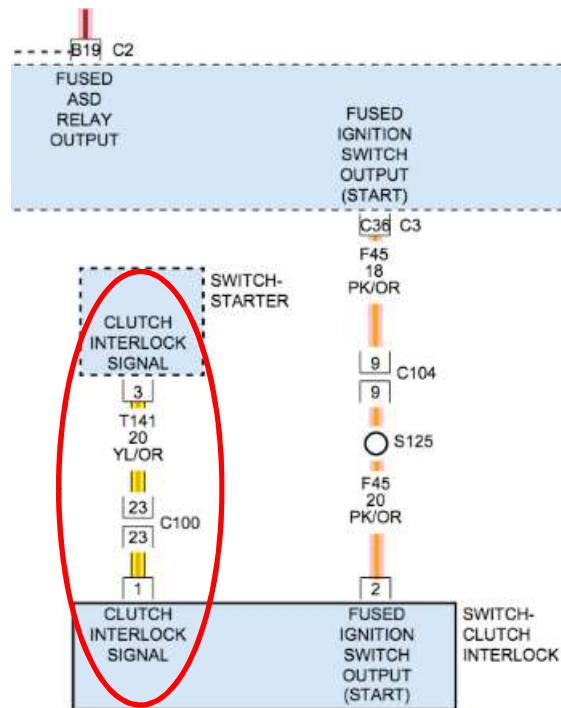

Figure 3 (Clutch pedal position sensor)
4. Connect AUTO-BLiP YELLOW wire to the **YELLOW/ORANGE** wire on the clutch sensor (**Figure 3**).